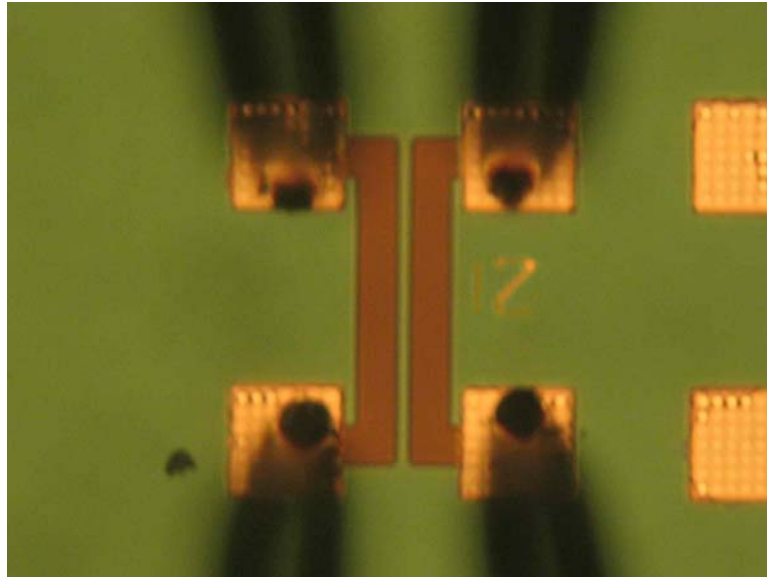

Figure 54: Diffused resistor microscope view
- 1 Pull the pins on the 4 contacts on the wafer as shown in Figure 54.